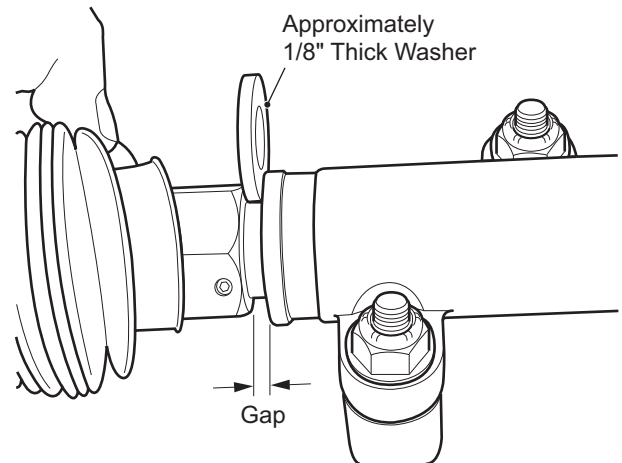

Figure 19 Checking Gap
4. With the spindle arm resting against front axle, cut the wire tie (54) securing the bellows (65) to the rack and pinion unit.
6. An 1/8" gap should exist between the large hex and the end of the rack and pinion unit (Ref. Figure 19).